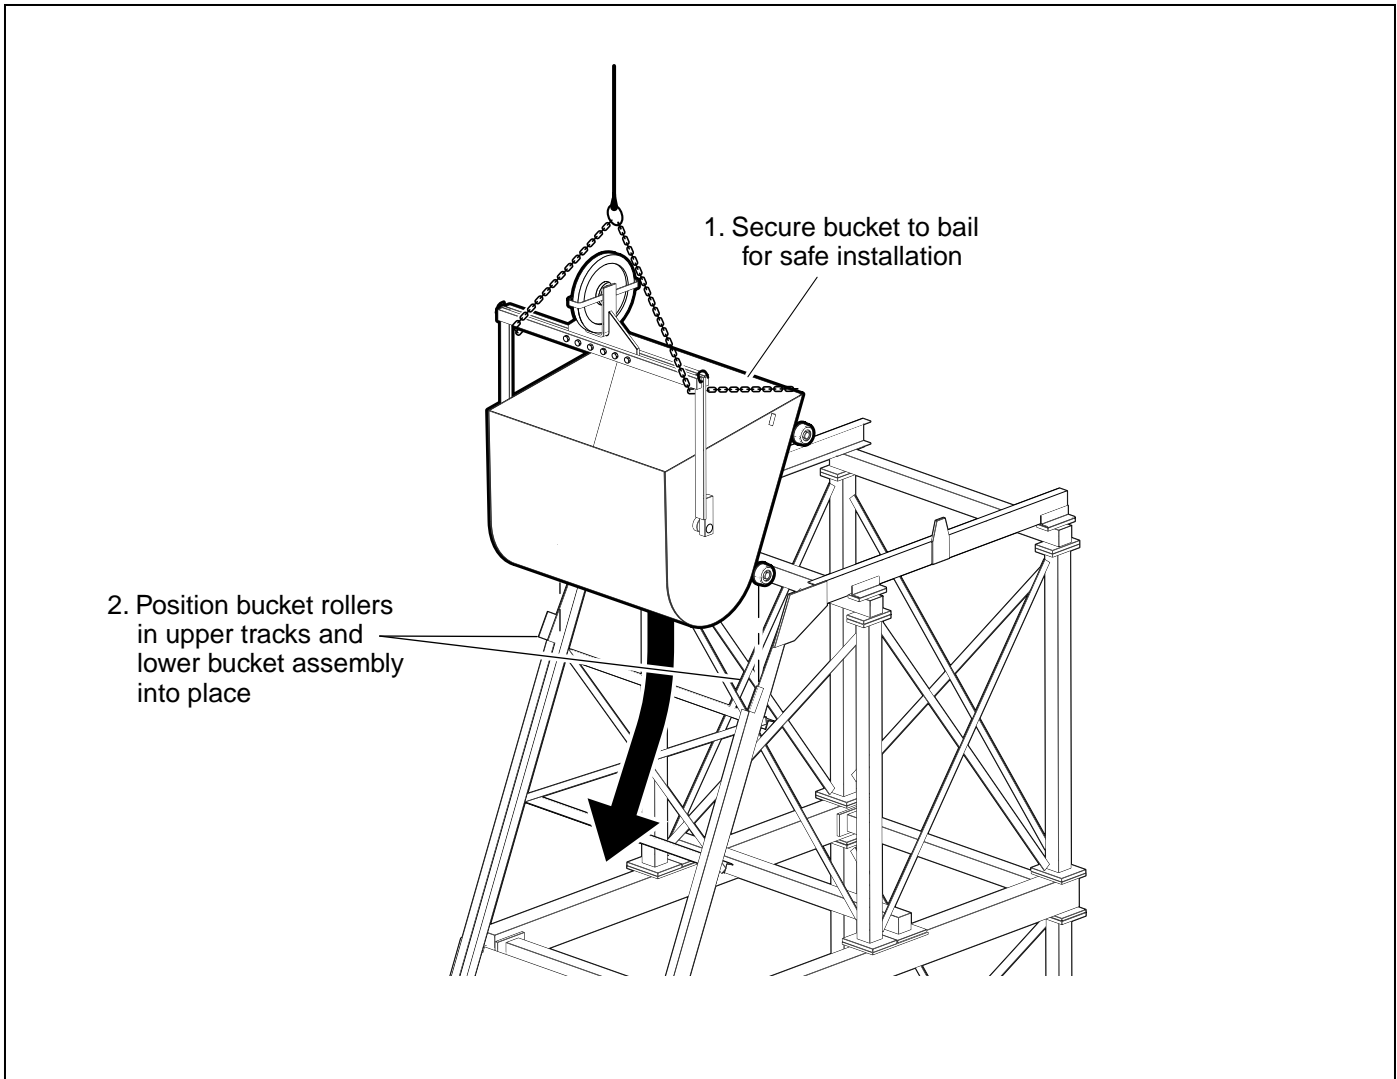

Figure 3.5 Lifting and Installing the Bucket Assembly
1. Secure bracket to bail (Fig. 3.5).
2. Position the bucket rollers in the upper tracks, and lower the bucket assembly into place (Figures 3.5 and 3.6).